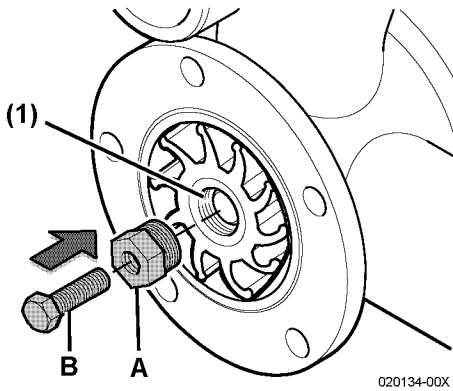

Figure 12
*Note: When replacing a used impeller with a new one, the impeller must have an M18x1.5 thread (**Figure 12, (1)**). Turn the M18 screw-side of the impeller to the cover side and install ().*